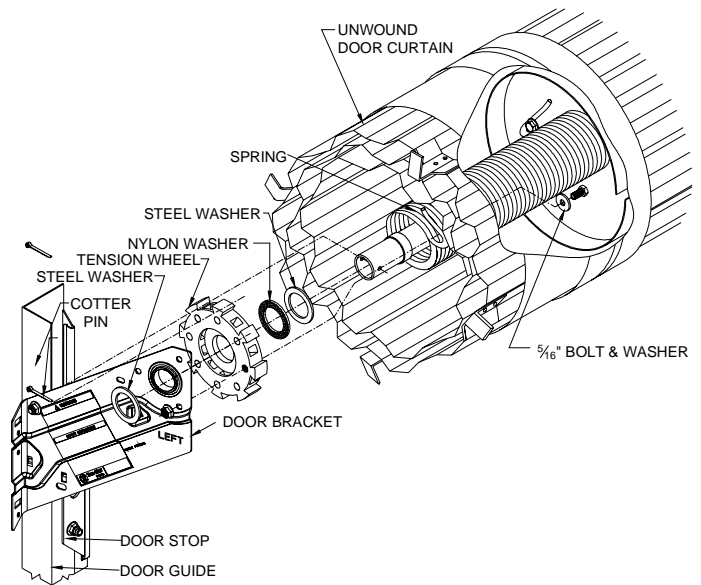
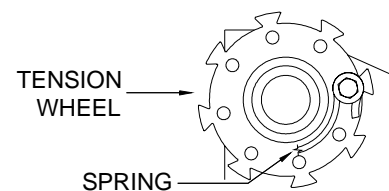

Figure 18.
Figure 19.
15.11 Remove the cotter pin from the hole in each axle end that keeps the brackets in place. Remove bracket/guide assemblies and set aside. Reference Figures 18 and 4.
15.14 On doors with the optional tension adjustment system, remove the 5/16" bolt and flat washer from the tension wheel. Check that the black nylon and steel washers are installed correctly as shown in Figure 18. Replace tension wheel onto axle and bolt spring in place referencing Figure 19.